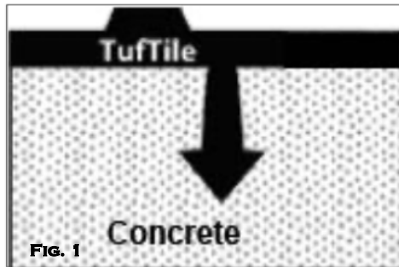

FIG. 1
2. Slowly press tile into concrete starting at one side and continue placement until flush with the surface. (Fig. 1) **IMPORTANT: Do not stand on tile during installation.** For Radius or Connected Tiles, see box below.